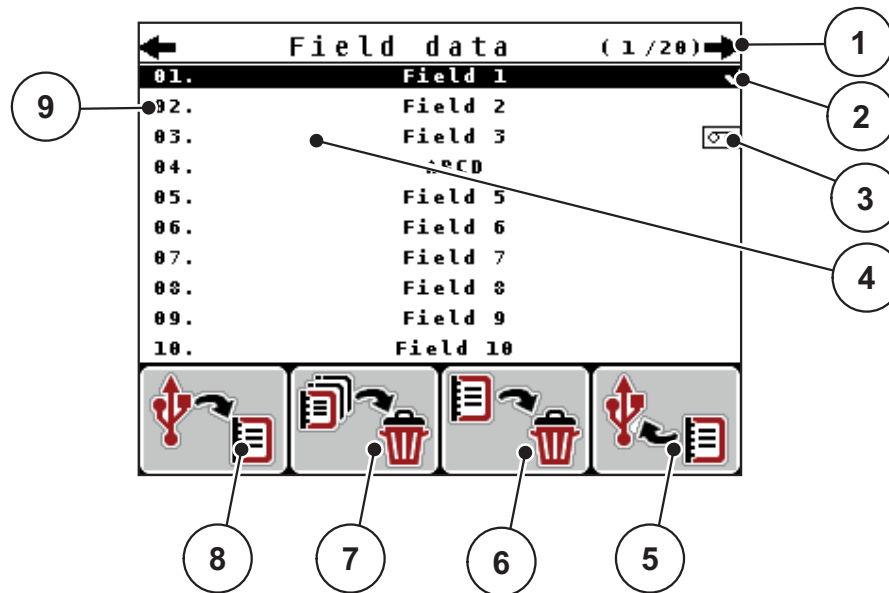

Figure 4.20: Field data menu
2. Press **F1** function key (see figure 4.20).
2. Press **F4** function key (see figure 4.20).
3. Press the **F3** function key below the **Delete** icon (see figure 4.20).
2. Press the **F2** function key below the **Delete all** icon (see figure 4.20).